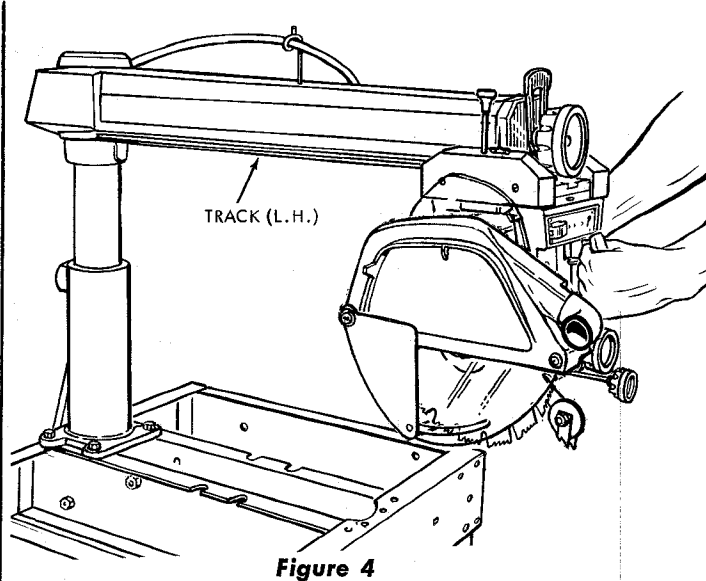

Figure 4
- Grasp the carriage with both hands (figure 4) and carefully start the carriage bearings onto the tracks on the radial arm. Be sure to hold the assembly parallel to the arm as it is carefully slipped into position until all four bearings are on the tracks in order to prevent excessive strain on the bearings and tracks.